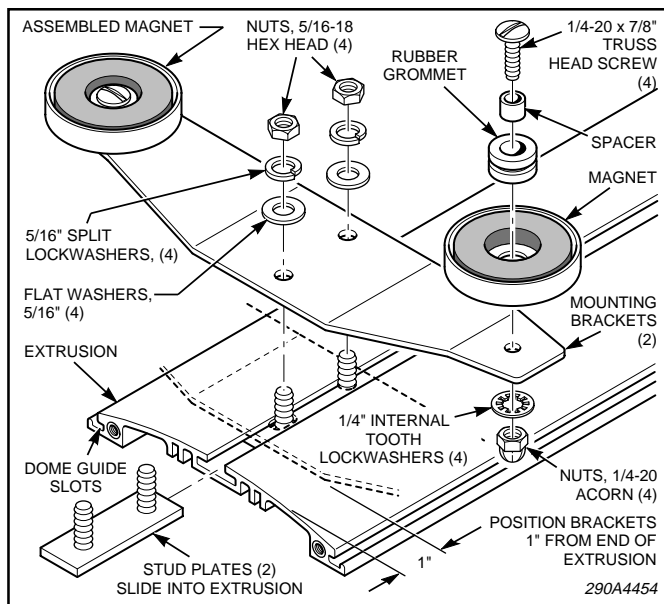

Figure 2.
4. Assemble a mounting bracket to each stud plate with the 5/16" hex nuts, 5/16" split lockwashers, and 5/16" flat washers as shown in figure 2. Secure the brackets about 1 inch from the ends of the extrusion.